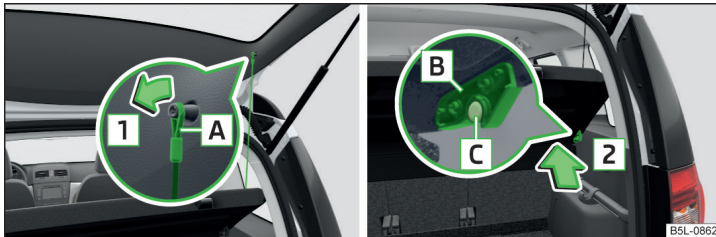

Fig. 105 Remove the luggage compartment cover
If the support straps **A** » Fig. 105 are attached to the boot lid, then opening the lid will raise the boot lid cover (hereafter referred to as cover).
- ▶ On both sides of the boot lid, unhook the straps **A** in the direction of arrow **1** » Fig. 105.
- ▶ Position the mounts on the cover **B** onto the side trim panel via pins **C** » Fig. 105.